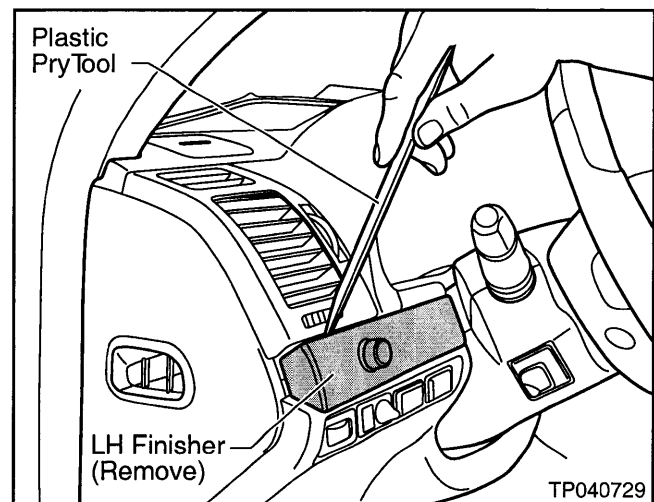

Figure 11
- d. Remove the LH Finisher using a Plastic Pry Tool (see Figure 11).